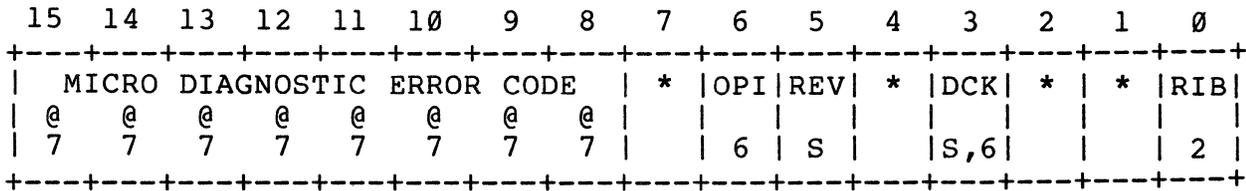

Figure 3-12 XST3 Register Format
3.3.2.8 Extended Status Register 3 (XST3) -- Extended Status Register 3 (XST3) appears as the seventh word in the Message Buffer stored by the TSV05 upon completion of a command or on an Attention (ATTN). Figure 3-12 illustrates the register format and Table 3-10 describes each bit.